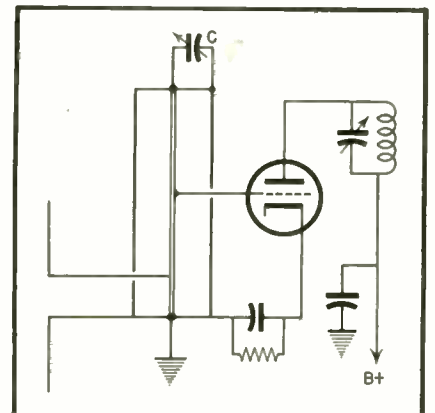
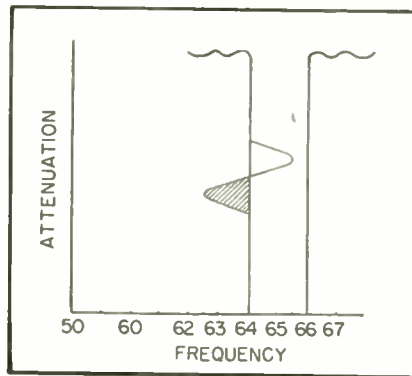

Fig. 7. Concentric line tuner
Fig. 6. Frequency modulating the second conversion oscillator shifts the signal in and out of the admittance band at a.f. for cw reception
Obviously, however, a full quarter-wave line is much too long for home receiver use. The length of the line can be reduced considerably and a convenient means of tuning can likewise be obtained by loading the line with an external tuning condenser as shown in Fig. 7. Such designs have been used in the past for experimental high frequency receivers and their possibilities make them appear worth considering for use in home receivers of the AM-FM variety.
For a further understanding of the circuit in the reception of cw signals in one mode of operation, the reader is referred to Fig. 6. The conversion oscil-
If the deviation were less than 2 kc, and entirely within the admittance band, nothing would be heard except possibly key clicks or "mush." However, if the deviation, as shown in Fig. 6, is such that the frequencies swing in and out of the band, an amplitude modulation effect is produced by the passage or no passage of the signal. If the carrier is deviated, say 256 cycles-per-second, it is apparent that a 256-cycle note will be heard—this tone continuing as long as the transmitting key is depressed. In the above example, the mean carrier frequency is assumed at one edge of the admittance band (65 kc). This is not essential, however, and the mean carrier frequency may be within or without the band, so long as it is deviated into and out of the band once each cycle.
Under certain conditions it is possible and desirable to obtain a double-frequency note—for instance a 512-cycle pitch with the frequency modulator oscillating at 256 cycles per second. It is necessary to retune the fourth infinite rejection circuit for high-side cut-off slightly above the cut-off frequency of the remaining low-side cut-off circuit—for example at 66 kilocycles. The admittance band width of the low-frequency i-f channel may be from 64 to 66 kc as suggested in Fig. 7. The band width of the first intermediate-frequency amplifier is not critical, because the second channel now provides both high and low-side cut-off.
66.5 kc, causing the signal frequency to pass in and out of the admittance band (on both higher and lower sides) twice per cycle instead of once. Comparison of Figs. 6 and 7 will show that a double-frequency component has been introduced under the operating conditions of Fig. 7. If either conversion
Fig. 7. A double tone is secured by sweeping the signal completely across the admittance band. Shaded portions of Figs. 6 and 7 show the portion of the signal outside the admittance band
In the example just cited for obtaining the double tone, the mean carrier frequency has been within the admittance band, as indicated in Fig. 7. The same effect will be produced by adjusting the average carrier frequency to a point outside the admittance band, and then deviating it into and through (beyond) the band.